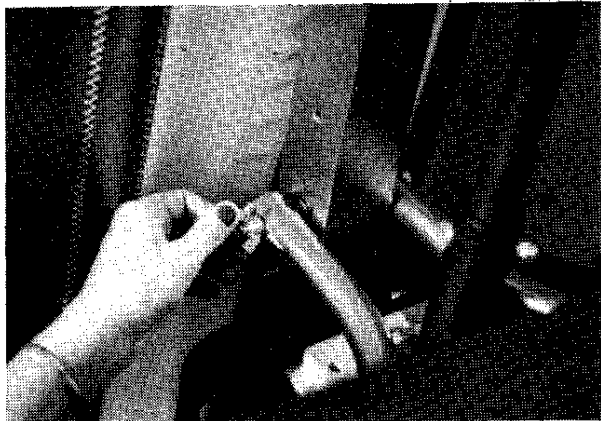

Figure 2.18
24. Attach landing gear downtubes to each side of root tube using AN5-46, washer, wingnut and safety ring. Be sure to insert plastic saddle fittings. **Figure 2.18**